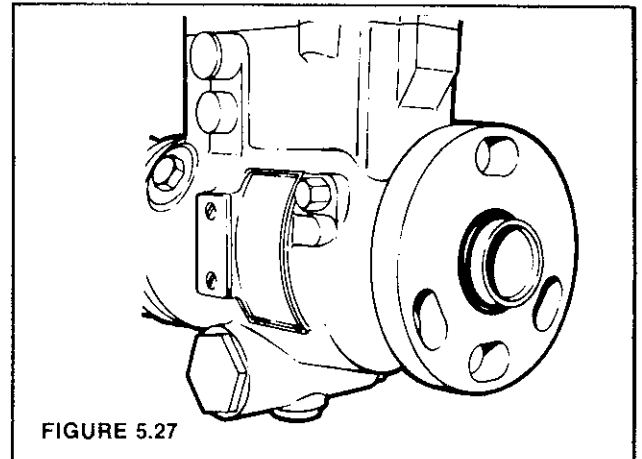

FIGURE 5.27
STEP 27 Remove the pump from holding fixture and install the pump flange seal (Figure 5.27).